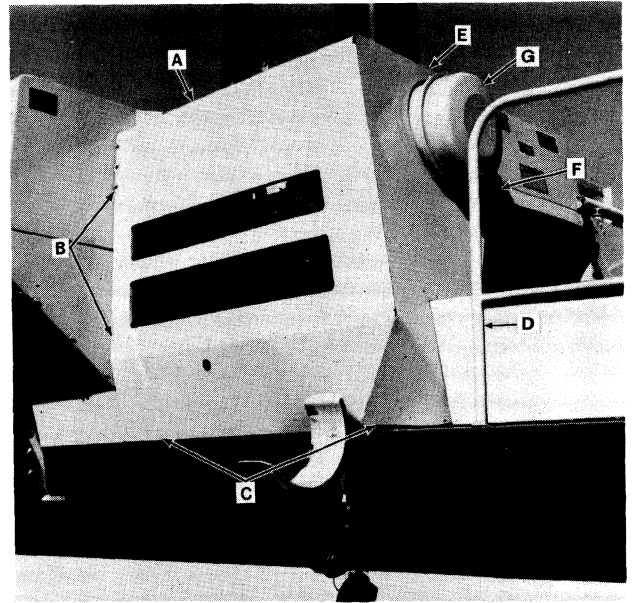

FIGURE 5B-2
SHIELDS SHOWN REMOVED FOR CLARITY. FIGURE 5B-1
1. Extend the unloading auger to the fully extended position and install the safety pin, A, Figure 5B-1.
2. Remove shield, A, Figure 5B-2. The shield is secured with 5/16" bolts along the front, at B, 5/16" bolts across the bottom, at C, and 5/16" bolts up the back, at D. Two 3/8" bolts must be removed at E. Remove 5/16" bolts from the outer end of brace, at F. The dust bowl, G, must be removed to allow the shielding to slide off the air cleaner.